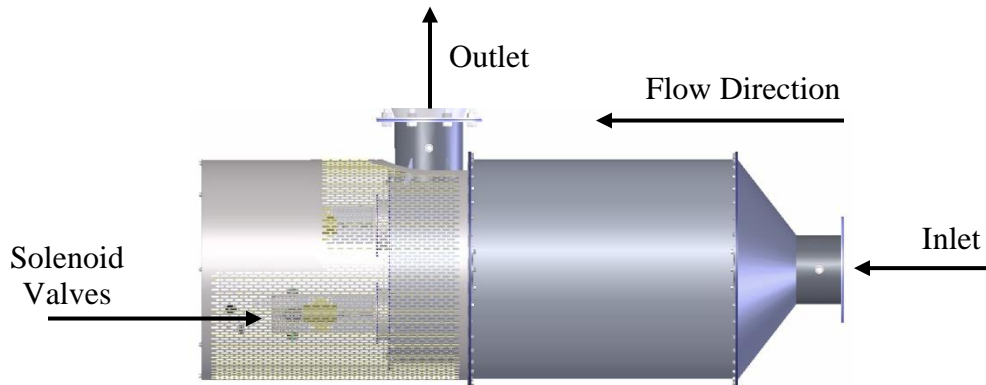

Figure 5: Flow Direction and Inlet/Outlet Identification
- c. For top out designs, the outlet flange must be oriented vertically upward as shown in Figure 5.
Step 3: The DPF is designed to flow only in one direction. The inlet to the RH4XXM is opposite of the solenoid valves. The outlet is on the same side, either next to the solenoids for an end out configuration or normal to on a side out configuration but closest to the solenoids. See Figure 5 for details.